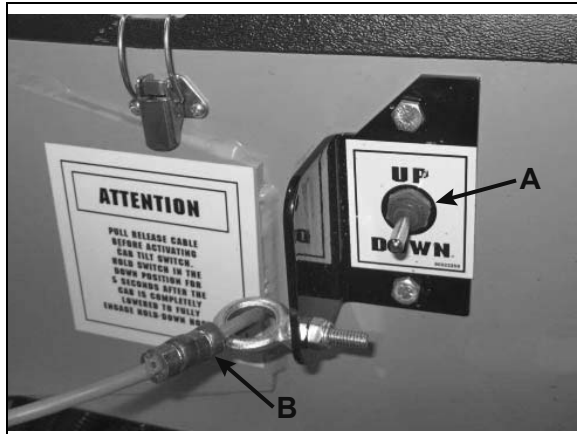

Figure 2
In most cases, the cab tilt control switch is located on the left-hand frame rail (Figure 2). The safety prop release cable is located on the left-hand rail, within reach of the tilt switch.
6. After the safety prop has dropped over the cylinder, move the tilt control switch to the DOWN position (Figure 2) and lower the cab slightly until the safety prop rests fully on the top of the tilt cylinder (Figure 3).